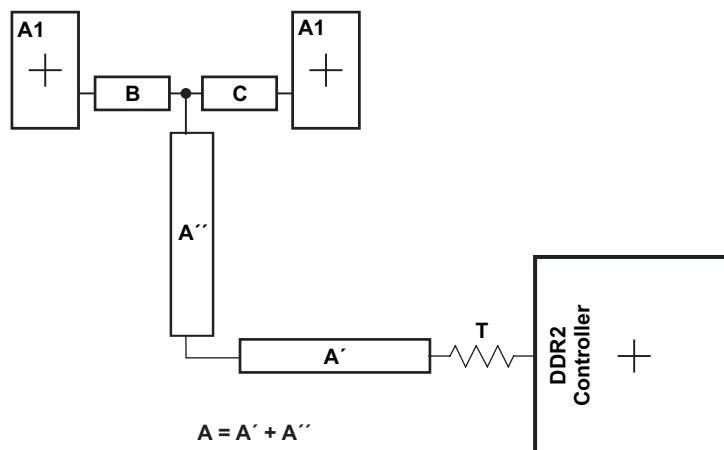

Figure 8-42. CK and ADDR\_CTRL Routing and Topology
Figure 8-42 shows the topology of the routing for the CK and ADDR\_CTRL net classes. The route is a balanced  $T$  as it is intended that the length of segments B and C be equal. In addition, the length of A ( $A'+A''$ ) should be maximized.
- (1) The length of segment  $A = A' + A''$  as shown in Figure 8-42.
(2) Series terminator, if used, should be located closest to the device.
(3) Center-to-center spacing is allowed to fall to minimum (2w) for up to 500 mils of routed length to accommodate BGA escape and routing congestion.
(4) CACLM is the longest Manhattan distance of the CK and ADDR\_CTRL net classes.